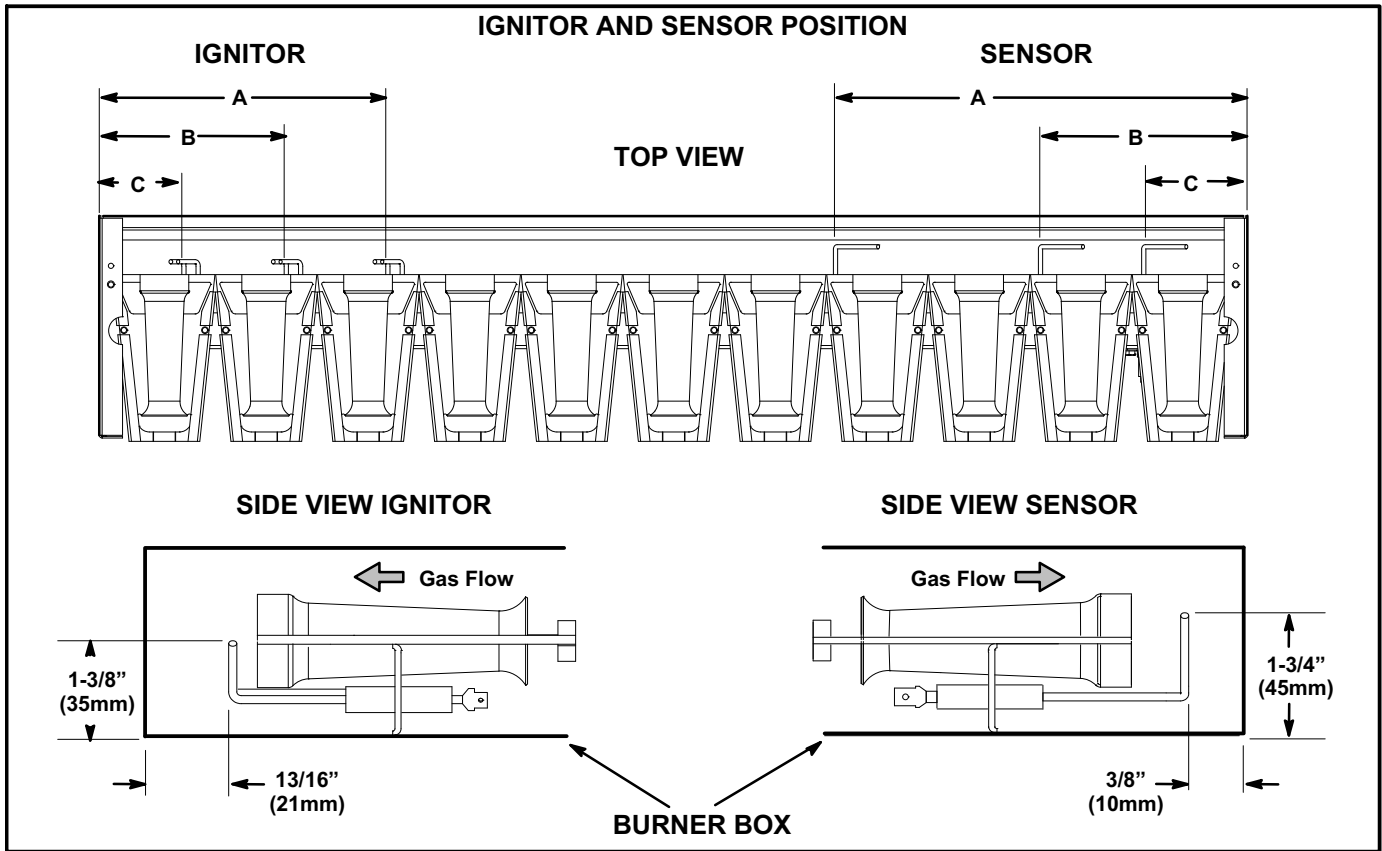

FIGURE 23
- 5- Check the alignment of the ignitor and the sensor as shown in figure 23 and table 12.